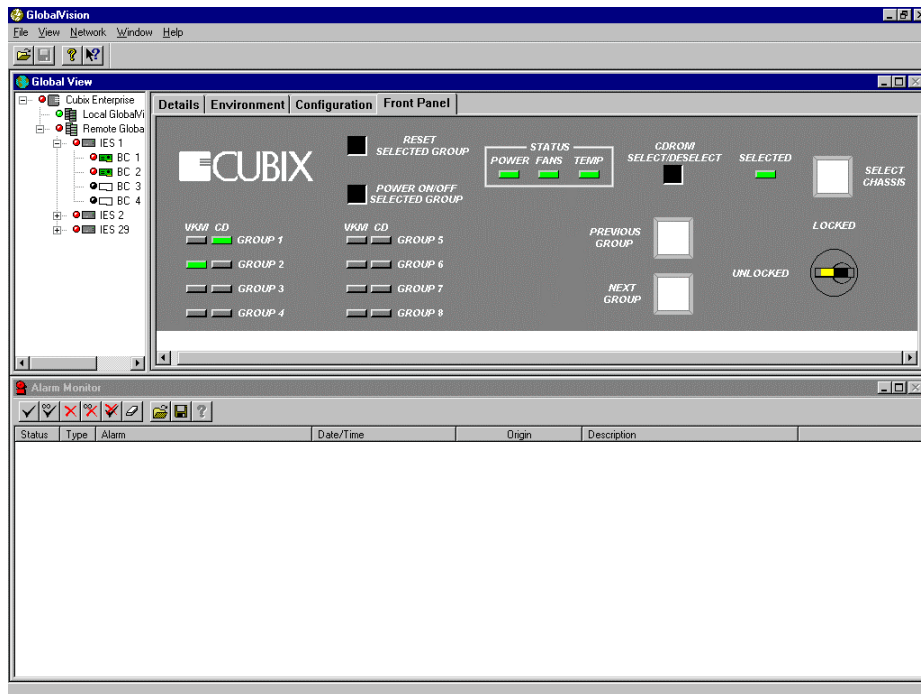

Figure 125 - Remote IES (DENSITY), Front Panel tab
The group selected will be displayed under the VKM LED columns. The LED will be green if the power to the group is on, red if the power is off. See Figure 125.
The RESET SELECTED GROUP button is used to reset the computer board in the selected group from the FRONT PANEL tab. The RESET SELECTED GROUP button is a small black square button. It is located on the top left half of the Density front panel, above the POWER ON/OFF SELECTED GROUP button. See Figure 125.
1. Click on the RESET SELECTED GROUP button to reset the selected group. See Figure 125.
The CD-ROM SELECT/DESELECT button allows you to assign the CD-ROM drive to an individual group. The CD-ROM SELECT/DESELECT button is a small black button located on the top right half of the Density Chassis, above the PREVIOUS GROUP/NEXT GROUP buttons. See Figure 125.
The Status Lights for POWER, FANS and TEMPERATURE display diagnostic information. The Status Lights are located in the center on the top of the Density Chassis and are accessible through the FRONT PANEL tab. See Figure 125.